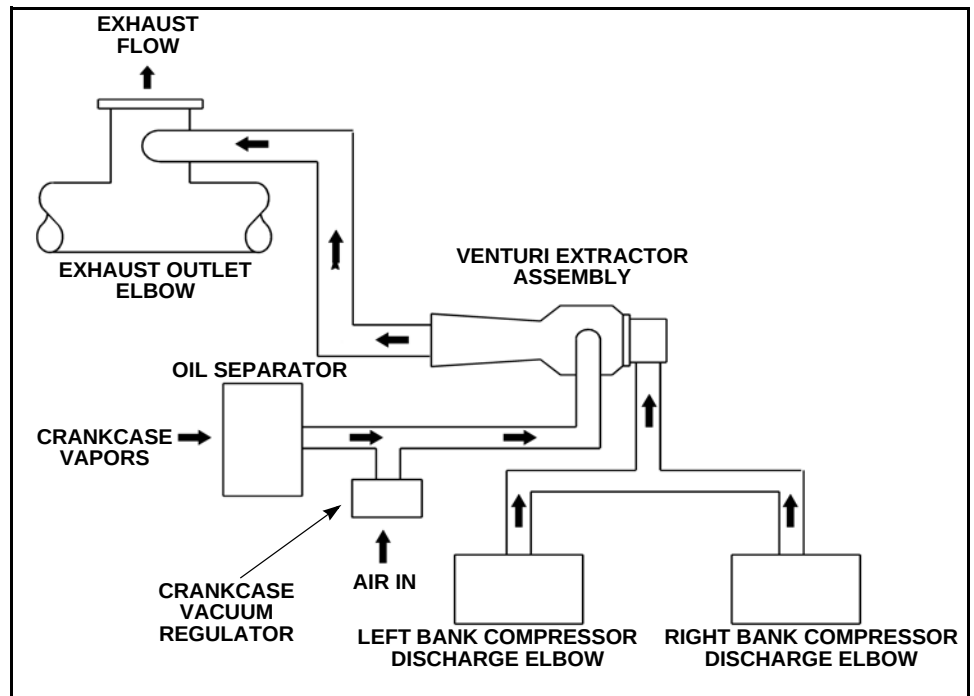
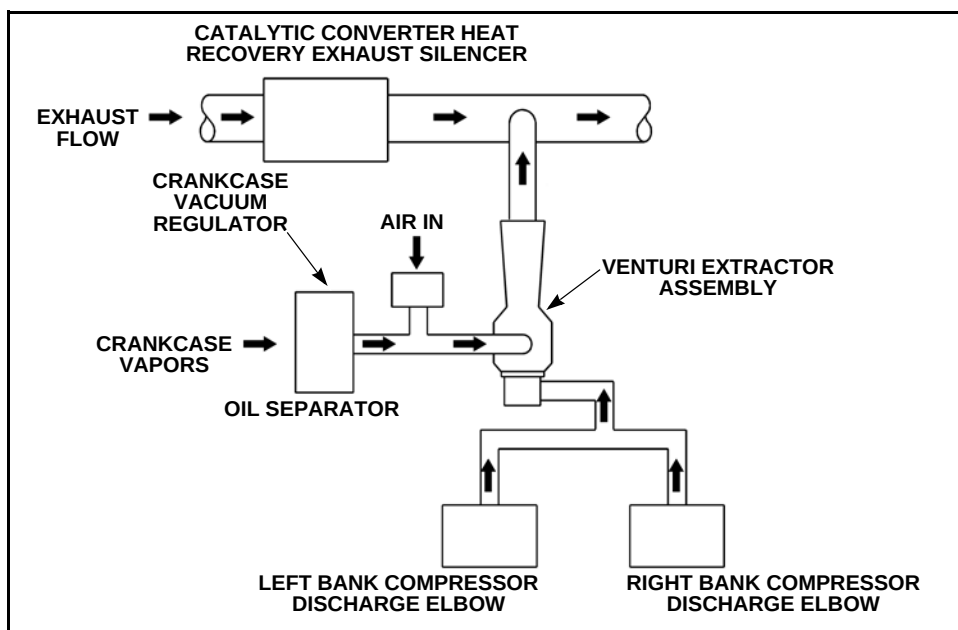

Figure 5-10 GL System (Standard)
Figure 5-11 GSI And GL Systems (Optional)
- VHP & VGF lean-burn engines (optional on VHP G/GSI & VGF GSID) use compressed intake air blown through a venturi to create a vacuum, which draws the vapors out of the crankcase and ejects the vapors into the exhaust system, see Figure 5-10 below. When a catalyst or heat recovery equipment is used, the vapors are routed downstream of the equipment in use (see Figure 5-11). When piping the crankcase vapors downstream of the high restrictions (i.e. catalytic converter, heat recovery unit, silencer), back pressure limits can be used without BMEP & RPM reductions. *General Tech Data – Intake/Exhaust Systems* should be referenced for exhaust system guidelines (S8242 or latest revision) and VHP engine back pressure limitations (S7567-3 or latest revision). For a procedure on calculating exhaust system back pressure, reference Chapter 7, Exhaust Systems.